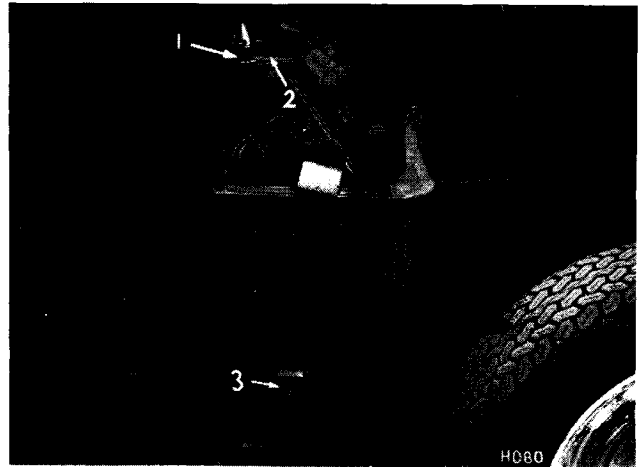
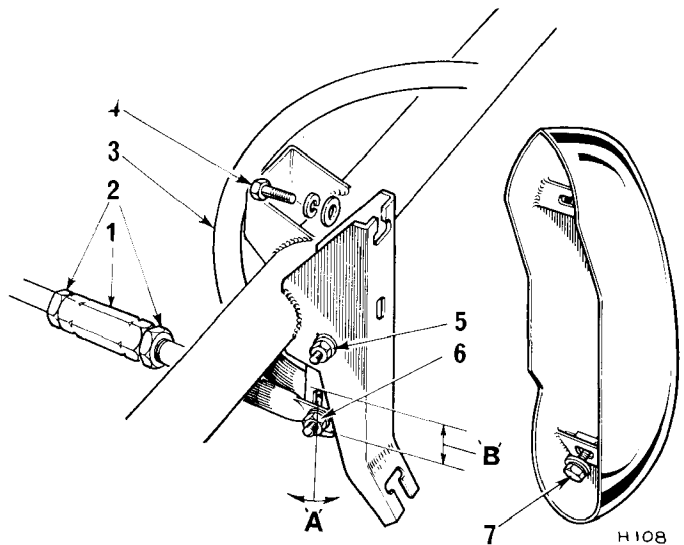
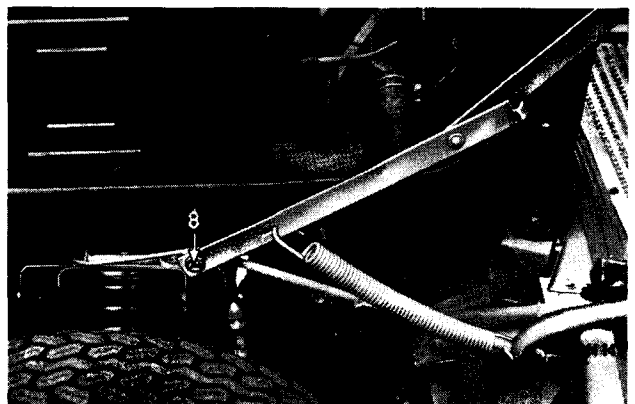

Fig. 8. Bonnet height adjusters
Fig. 9. Bonnet adjustment points
Fig. 10. Bonnet stay attachment
Remove both overrides by unscrewing items (4) and (7) (Fig. 9), take out bolt (8) (Fig. 10) and support the bonnet as the hinge bolts (5) and (6) (Fig. 9) are withdrawn.
Height Adjustment (Fig. 8)
If slight adjustment is required to achieve a parallel clearance of $\frac{1}{16}$ " (5 mm.) between the bonnet and scuttle, slacken the locknuts (2) (Fig. 9) and turn the sleeve nut (1) (Fig. 9) on either side, as necessary.
Lift or lower the front of the bonnet until parallel clearance between the bonnet and door is achieved. During this movement, the rear of the bonnet will pivot on the bracket shown arrowed on (2) (Fig. 8). Tighten the link bolts (5) and (6) (Fig. 9).
Overrides (Fig. 9)
Open the bonnet and referring to Fig. 9 (page 5-205V), slacken the upper bolt (4), remove the lower bolt (7) and remove the override.